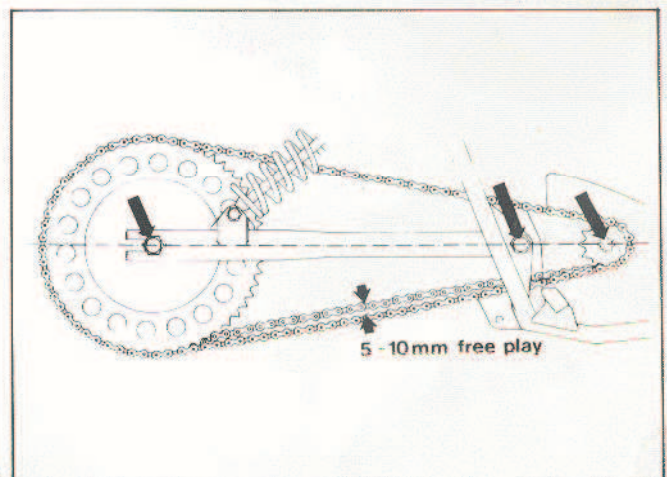

Fig. 7.4
1. Press down the machine until the three shafts in fig. 7.4 lie on a straight line. In this position the chain is maximally extended.